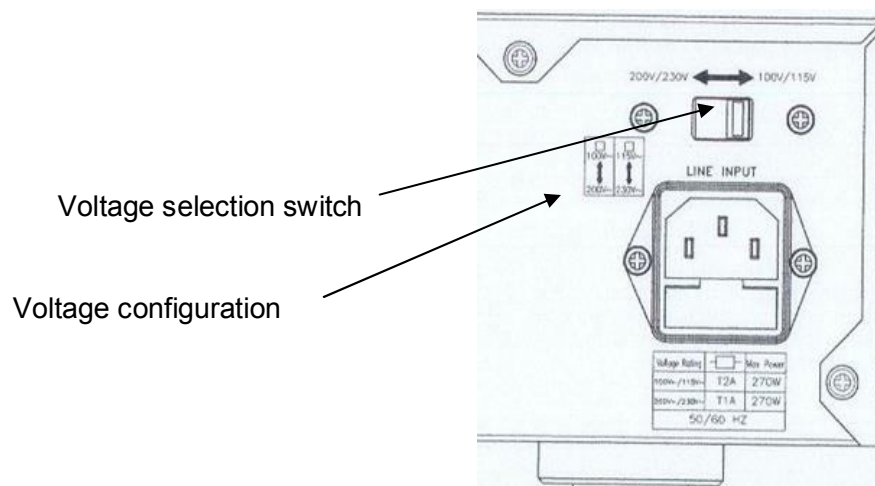

Fig 2-1 SET OF SWITCH
2.2.2 Establish the switch and lie on 5302A AC Source rear board, please consult Fig. 2-1 and establish the 2.2.2 correct working voltage, the settlement of the voltage is explained as follows: